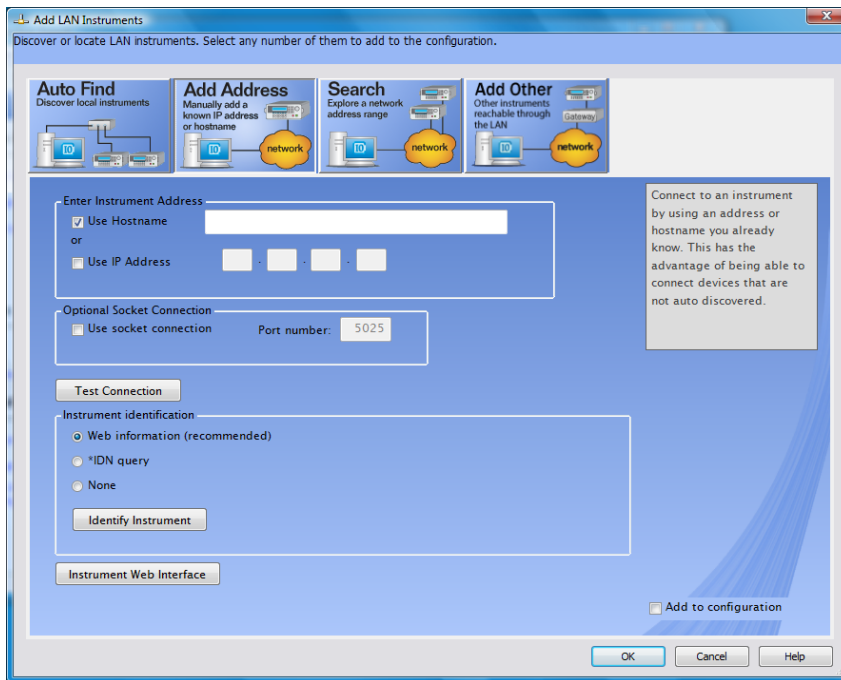

Figure 36 Add LAN Instruments Add Address Dialog screen
- 1 From the Add LAN Instruments screen, select the Add Address tab. (Figure 36).